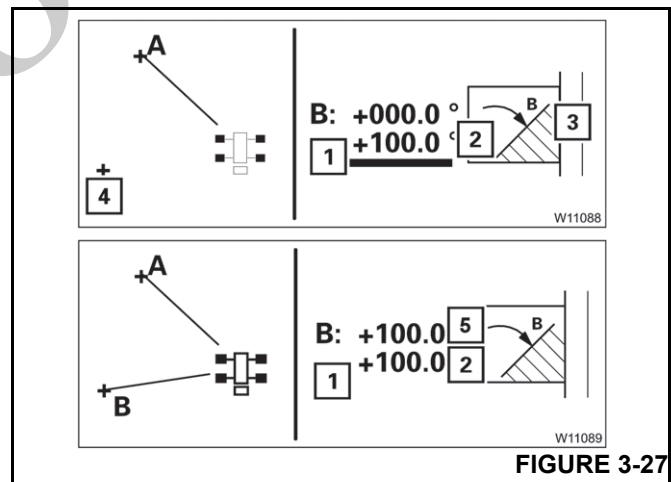

FIGURE 3-27
1. Press the button (3) (Figure 3-27).
2. The bar (1) turns red, input mode on. To cancel input press the **Esc** button.
3. Swing the main boom (4) to the shutdown point from the left, e.g. to value (2) 100°.
6. The value (2) is accepted as the limit value (5).
7. The bar (1) goes out.